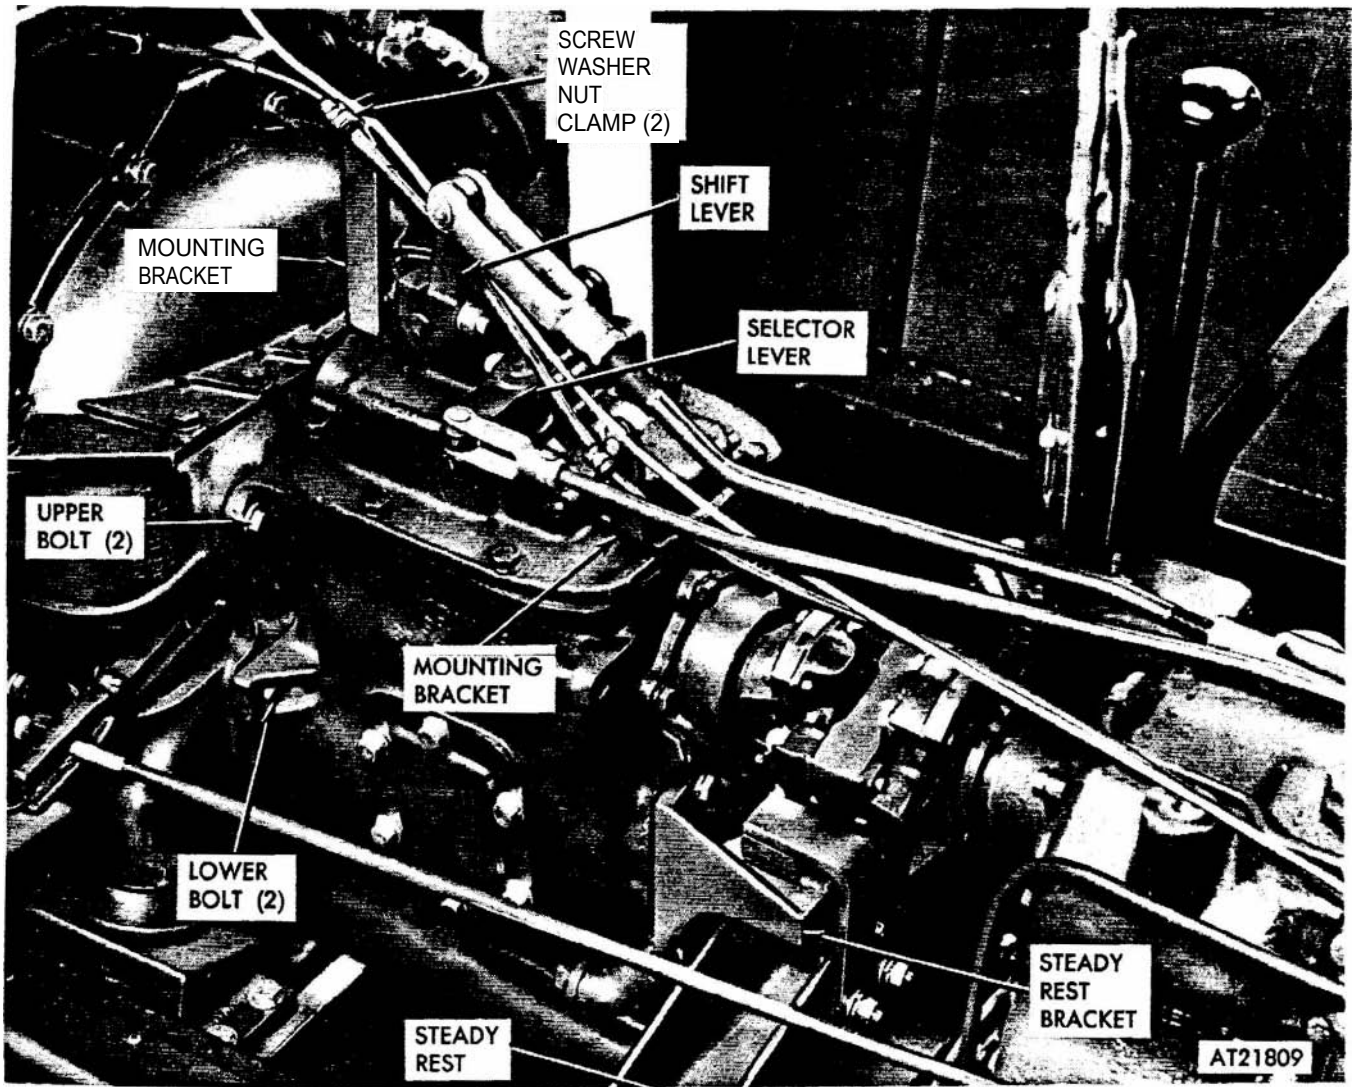
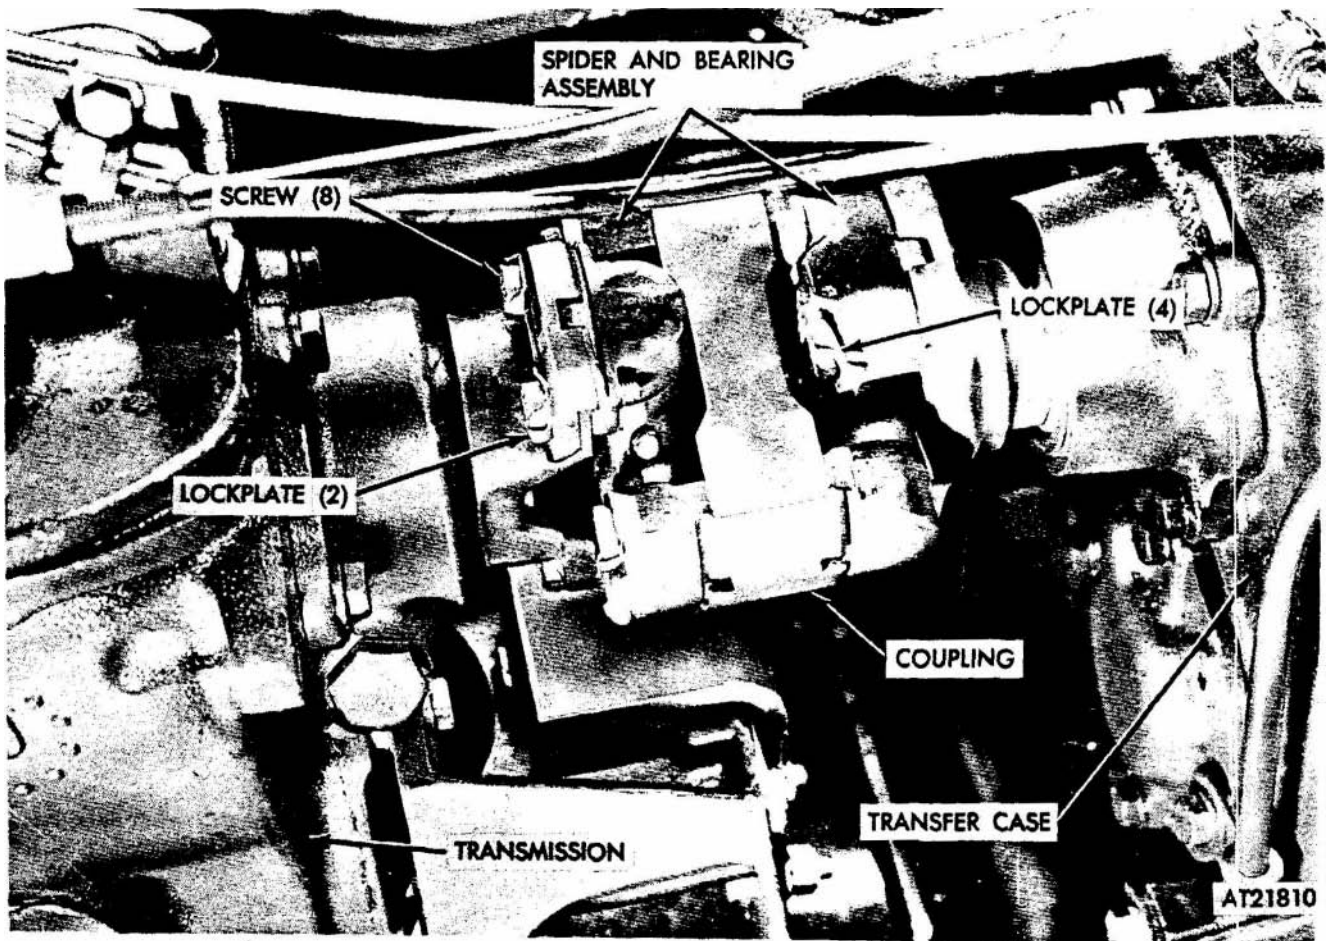
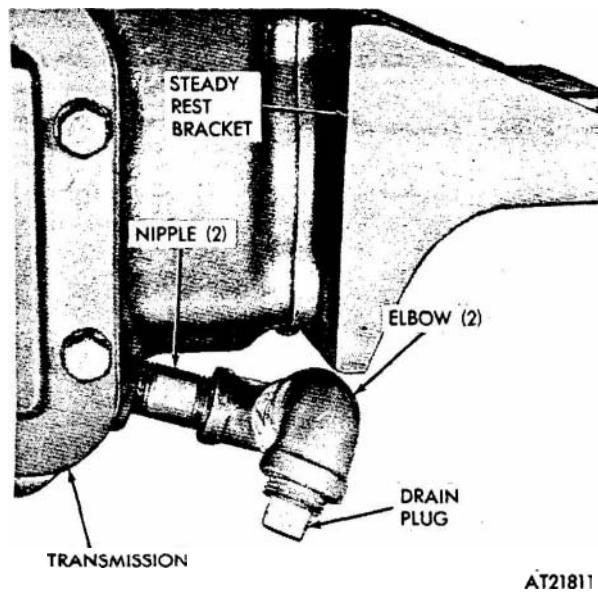

Figure 2-156. Transmission assembly, removal and installation.
Figure 2-157. Transmission to transfer case coupling.
Figure 2-158. Transmission drain assembly, removal and installation.
(1) Open and secure engine cover (refer to TM 9-2320-242-10).
15) Disconnect accelerator and engine stop cables from engine (refer to paras 2-65 and 2-66). Remove screws, washers, and nuts securing cable clamps to brackets (fig 2-156).
(6) Remove cable mounting brackets by removing screws and lock washers securing brackets to transmission.
(7) Remove coupling assembly by removing eight screws and six lockplates securing coupling assembly to transmission and transfer case (fig 2-157).
(8) Remove transmission steady rest and pads (refer to para 2-244).
(9) Install a suitable lifting device to transmission and remove two upper screws and lock washers securing transmission to clutch housing.
(10) Install two suitable guide studs into upper transmission mounting holes in clutch housing.
(11) Remove two lower screws and lock washers securing transmission to clutch housing by reaching into clutch housing through side access hole.
(12) Slide transmission on guide studs, away from engine. Slide transmission forward until input shaft is clear of clutch plate spline and throw out bearing.
(13) Lift transmission off guide pins and remove from engine. Place on suitable blocks. Remove lifting device.
(14) Remove selector remote control lever by removing screw, lock washer, and nut securing lever to transmission.
(15) Remove shift remote control lever by removing screw, lock washer, and nut securing lever to transmission.
(16) Remove steady rest bracket by removing four screws and lock washers securing bracket to transmission.
(17) Place a suitable container under drain and remove drain plug, two elbows, and nipples from transmission. Drain lubricant and install drain plug (fig 2-158).
(1) Remove drain plug from transmission. Install **two nipples and two elbows** into transmission. Install drain plug into elbow (fig 2-158).
(2) Position steady rest bracket to transmission and secure with four screws and lock washers.
(3) Position shift remote control lever on shaft and secure with screw, lock washer, and nut (fig 2-156).
(4) Position selector remote control lever on shaft and secure with screw, lock washer, and nut.
(5) Install two suitable guide studs into upper mounting holes in clutch housing.
(6) Install a suitable lifting device on transmission. Lift transmission and position on
(7) Carefully slide transmission on guide studs towards engine. Slide transmission forward with input shaft engaging clutch plate spline and bearing pilot.
(8) Install two lower screws and lock washers securing transmission to clutch housing.
(9) Remove guide studs and install two upper screws and lock washers securing upper transmission to clutch housing. Remove lifting device.
(10) Install and adjust transmission steady rest and pads (refer to para 2-244).
(11) Position and secure coupling assembly to transfer case and transmission. Secure coupling to transmission with four screws and two **lockplates**. Secure coupling to transfer case with four screws and four lockplates. Torque screws to 24-27 lbs-ft. Bend tabs on lockplates to secure screws (fig 2-157).
(12) Position cable mounting brackets on transmission and secure with screws and lock washers (fig 2-156).
(13) Connect accelerator and engine stop cables to engine (refer to paras 2-65 and **2-66**). Position cable clamps to brackets and secure **with** screws, washers, and nuts.
(14) Install transmission shift control **and** selector rods (refer to **para** 2-134).
(15) Fill transmission with lubricant (refer to **para** 2-133 and LO 9-2320-242-12).
(16) Install console (refer to para 2-33).